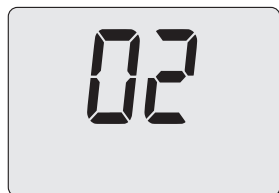

Figure 7.6
- Press 15 and the LCD display shows the number **02**, indicating activation of the "chimney sweep function" at maximum output (Figure 7.6).